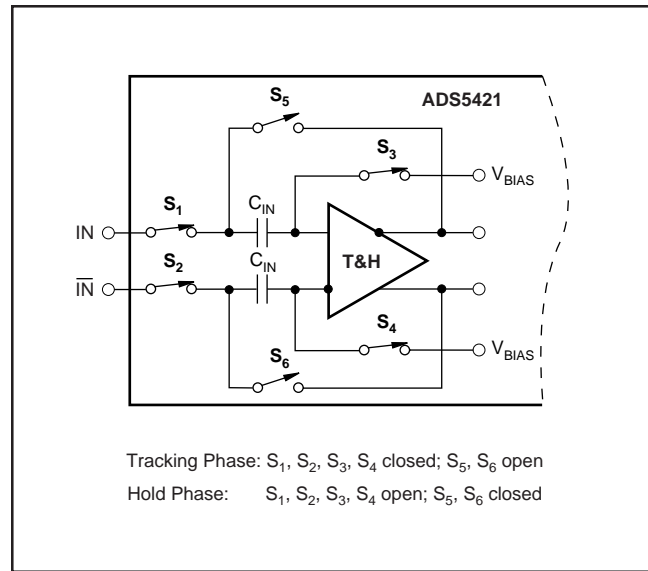
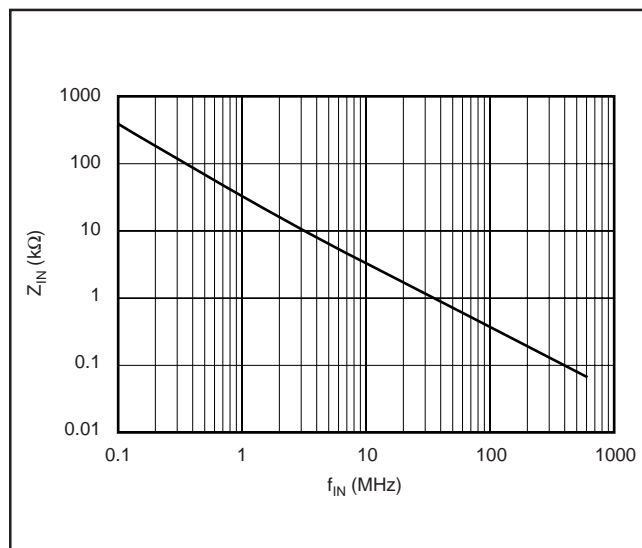

FIGURE 1. Simplified Circuit of Input Track-and-Hold Amplifier.
FIGURE 2. Differential Input Impedance vs Input Frequency.
The analog input of the ADS5421 consists of a differential track-and-hold circuit, as shown in Figure 1. The differential topology produces a high level of AC performance at high sampling rates. It also results in a very high usable input bandwidth—especially important for Intermediate Frequency (IF) or undersampling applications. Both inputs ( $IN$ ,  $\overline{IN}$ ) require external biasing up to a common-mode voltage that is typically at the mid-supply level ( $+V_S/2$ ). This is because the on-resistance of the CMOS switches is lowest at this voltage, minimizing the effects of the signal-dependent,
The input of the ADS5421 is capacitive, and the driving source needs to provide the slew current to charge or discharge the input sampling capacitor while the track-and-hold amplifier is in track mode (see Figure 1). This effectively results in a dynamic input impedance that is a function of the sampling frequency. Figure 2 depicts the differential input impedance of the ADS5421 as a function of the input frequency.